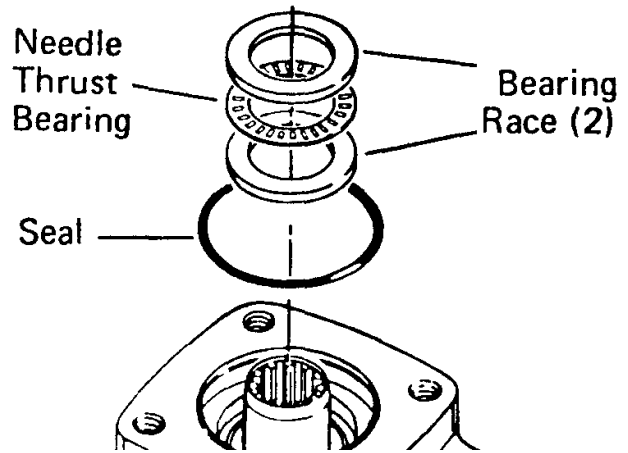

Figure 14
9. Place housing on clean, lint free cloth. Install seal in housing, see Fig. 14.
10. Install 2 bearing races and the needle thrust bearing in the order shown in Fig. 14.